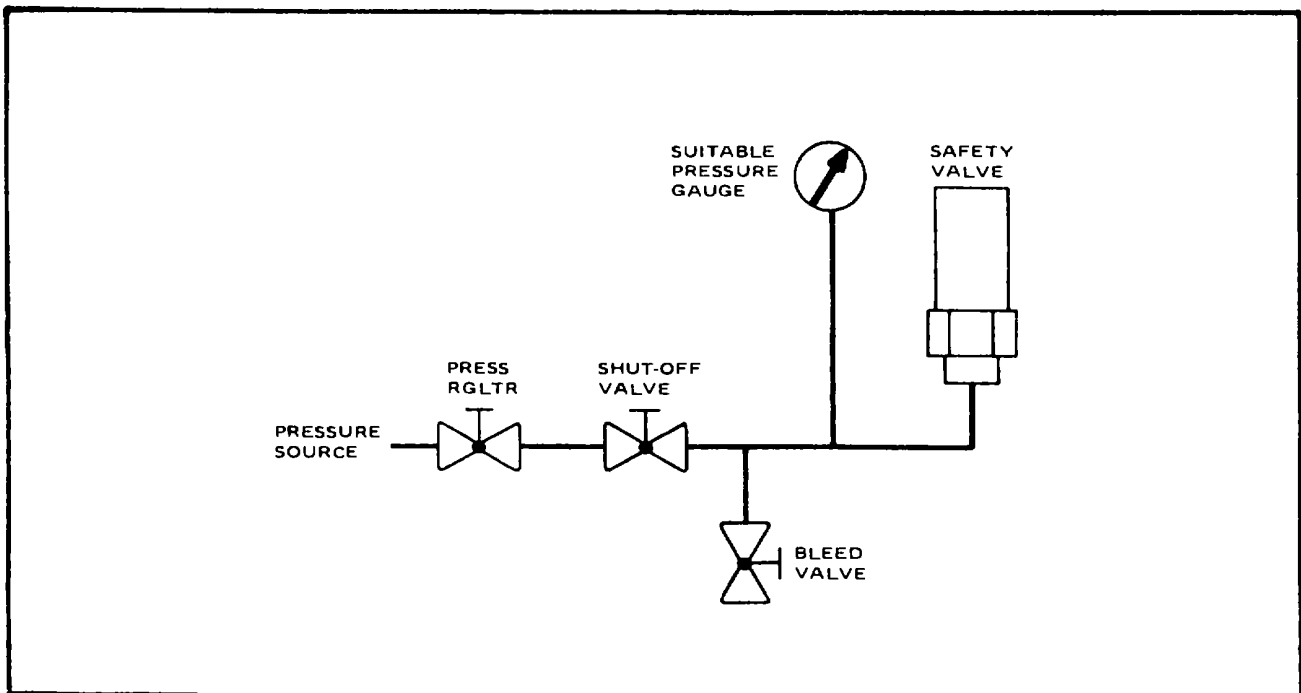

Figure 6-3. Typical Safety Valve Test Setup
- (1) Damaged gauges.
- (2) Damaged cam lever and hand valves.
- (3) Test safety valves. Connect valve to be tested to a gauge and regulated 4,000 psig (27,580 kPa) air or nitrogen source (see Figure 6-3).